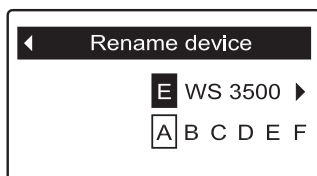

FIG. 121
4. Press the SELECT (O) button to display the Rename device screen (See Figure 121).